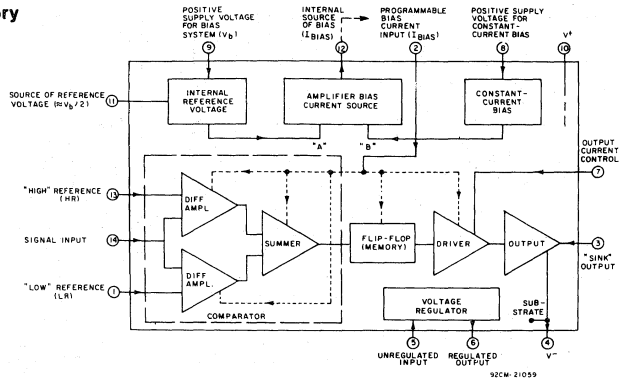

Fig. 1—Block diagram of CA3099E programmable comparator.
RCA-CA3099E Programmable Comparator is a monolithic silicon integrated circuit designed to control high-operating-current loads such as thyristors, lamps, relays, etc. The CA3099E can be operated with either a single power supply with maximum operating voltage of 16 volts, or a dual power supply with a maximum operating voltage of ± 8 volts. It can directly control currents up to 150 mA. It operates with microwatt standby power dissipation when the current to be controlled is less than 30 mA. The CA3099E contains the following six (6) major circuit-function features (Figure 1):